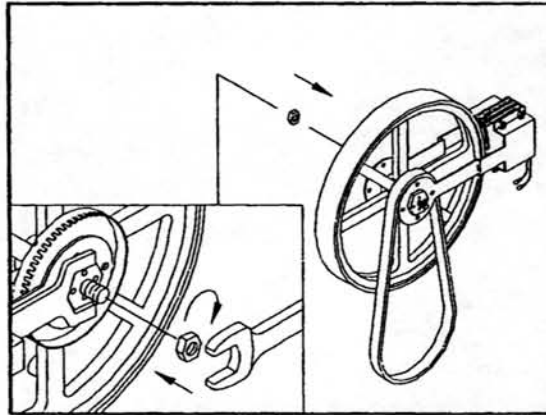

Fig.13-1
2. Use a wrench to fix the hexagonal head nut on the left side of the WHEEL (backside of the fig.13-1) first. Also, use another wrench by turning clockwise direction to tighten the nut on the wheel that the nut is to be fixed the WHEEL before disassembled (see fig.13-1 and its enlarged figure).